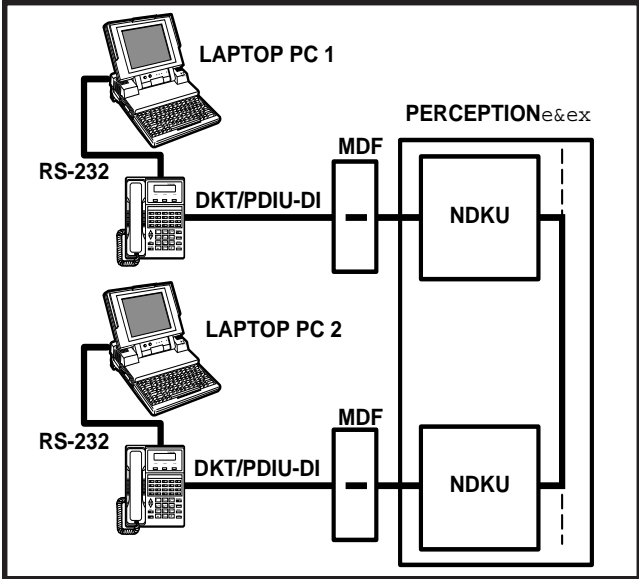

FIGURE 4-62
**6.181** Figures 4-62 ~ 4-65 provide tests for four PDIU call applications. The telephone and port numbers used in these figures are provided for explanation purposes only. When actually testing, use port and telephone numbers appropriate for the system. Each of these tests can be conducted with either manual dialing from a telephone dialpad, or AT dialing from a personal computer keyboard; however, only the preferred method of dialing for the application is presented. The *PDIU User Guide* has additional information on the tests, which are listed below:
- Figure 4-62—PC to PC Test Call Using AT Commands